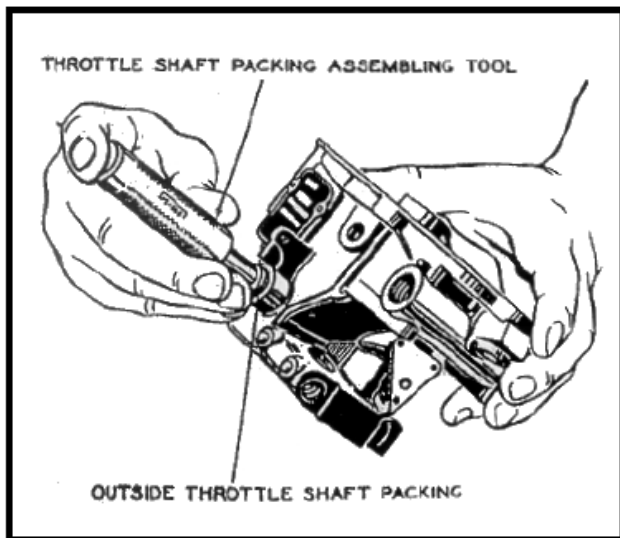

Figure 2-22. Installing Outside Throttle Shaft Packing
- g. Slide a throttle shaft packing retainer (68, figure 2-19) and throttle shaft packing (69) on the throttle shaft packing tool (12, figure 2-17) and insert the packing into the outside wall of the throttle body (80, figure 2-19). Drive into place until the throttle shaft packing retainer (68) is secure in the throttle shaft bore. (See figure 2-22.)